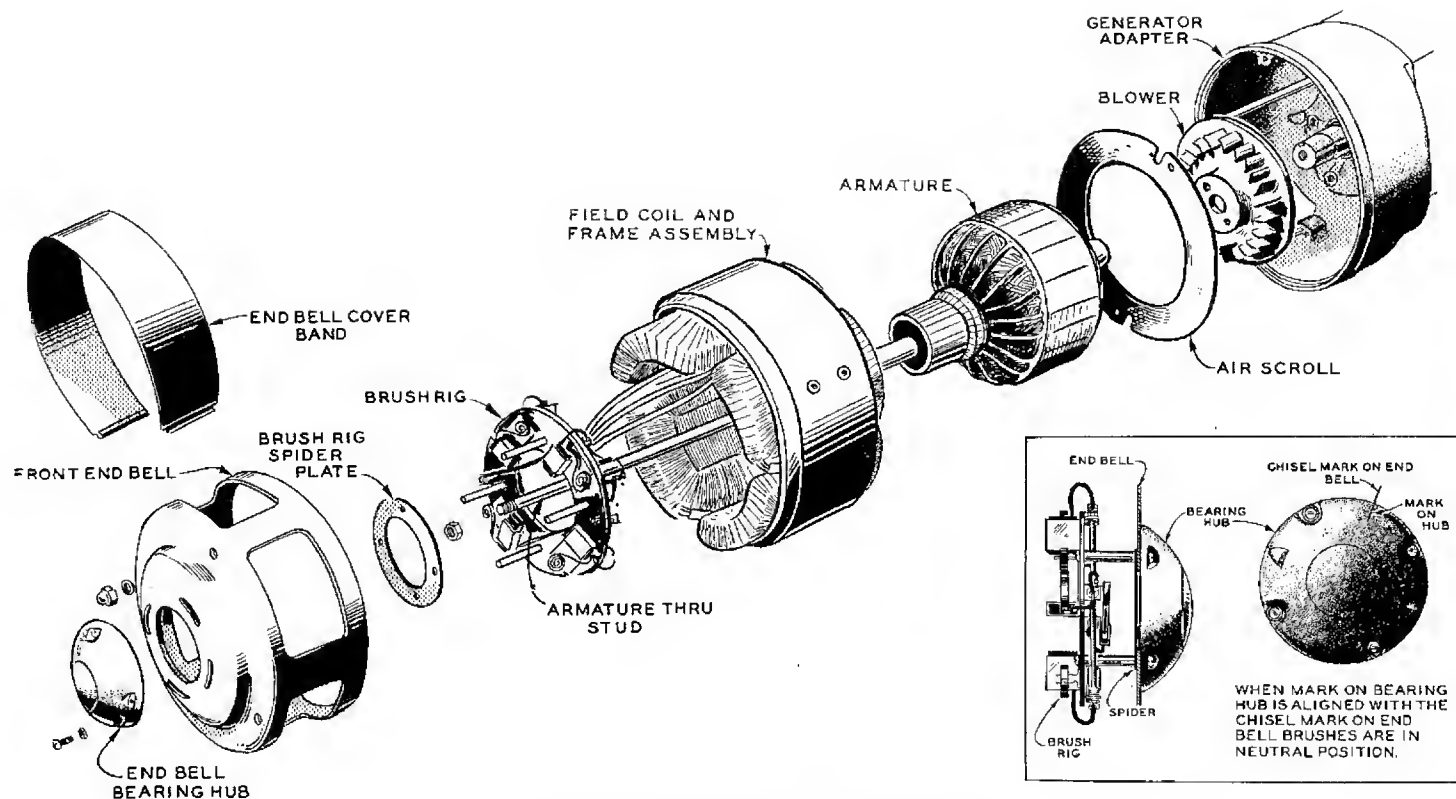
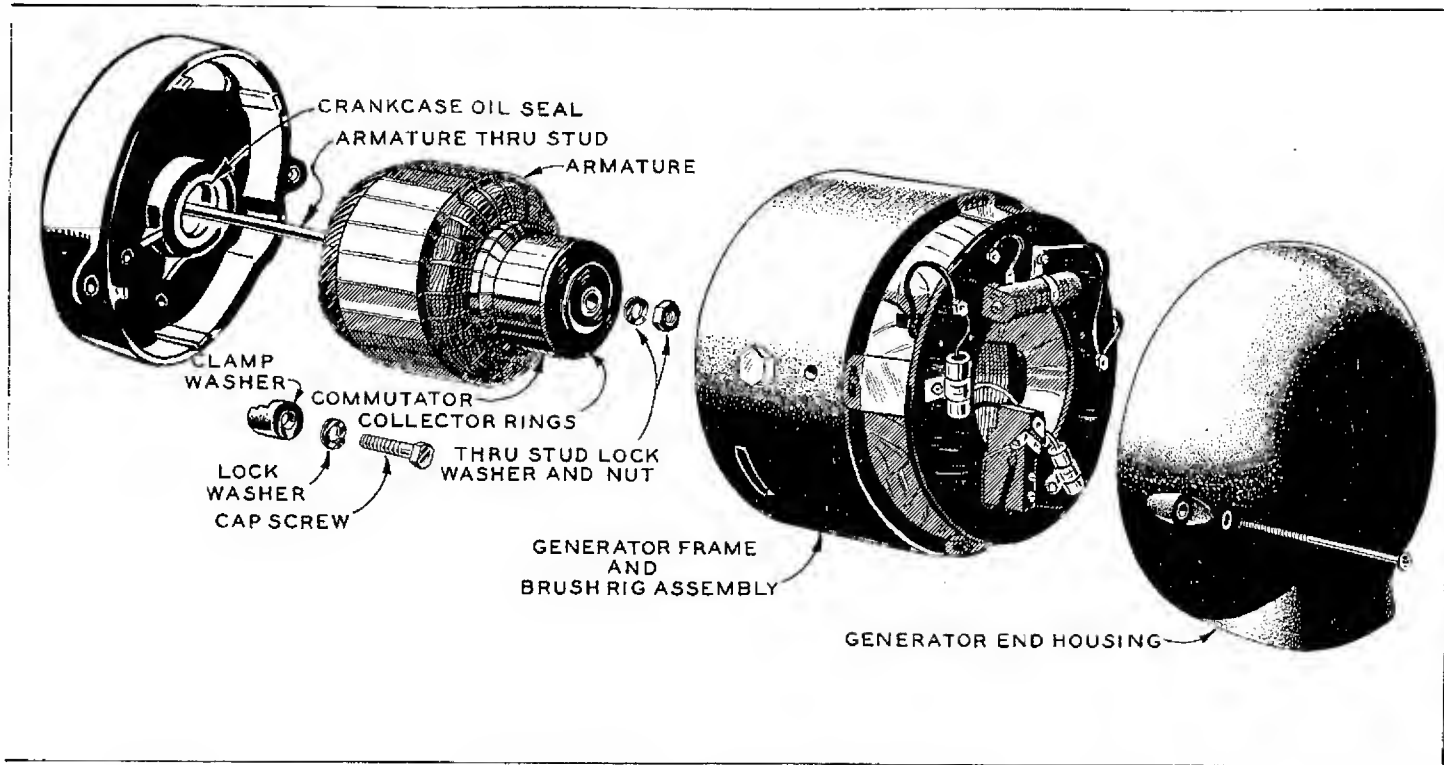

FIG.14-GENERATOR ASSEMBLY
FIG.15-GENERATOR ASSEMBLY
Two types of generator construction are used in this series of plants. Fig. 14 shows the type using an armature bearing. Fig. 15 shows the type using no armature bearing.
**BRUSH REPLACEMENT.**—Install new rectangular brushes when the old ones are worn to 5/8" or less in length. The cylindrical type collector ring brush used on the 300 watt 50 cycle, 400 watt 60 cycle generator may be used until worn to 1/4" in length. It is not necessary to remove the end bell or brush rig to install new brushes. Remove the end bell cover band (Fig. 14) or the end housing (Fig. 15), as the case may be. Brushes and leads are then easily accessible. New brushes are shaped to fit and seldom need sanding to seat properly. Always use the correct brush as listed in the parts list, never substituting a brush which may appear to be the same, but may have different electrical characteristics. Be sure to retighten the brush lead terminal nuts tightly. If some brush sparking occurs after replacing brushes, run the plant at a light load until the brushes wear to a good seat.
**BRUSH RIG POSITION.**—The position of the brush rig is important. This position was carefully set at the factory and is identified on bearing models by a chisel mark on the end bell in alignment with an indented mark on the bearing hub. See Fig. 14. On other models using no bearing, the proper brush rig position is identified by a painted edge of one brush rig support which aligns with a painted chisel mark on the edge of the generator frame. As long as the original brush rig and armature are continued in service, these reference marks must be observed. If a new brush rig or armature is installed, the original alignment marks may have to be disregarded in order to find the proper neutral position.
**GENERATOR DISASSEMBLY (Fig. 14).**—To disassemble the generator, first remove the end bell cover band. Lift each brush high in its guide, so that the brush is held by spring pressure against its side. Tag leads which are disconnected, to assure correct replacement. After removing the two end bell nuts, the end bell and frame may be removed as a unit, the armature bearing remaining on the armature. The end bell and frame assembly may be separated, to gain access to the brush rig.
**GENERATOR DISASSEMBLY (Fig. 15).**—To disassemble the generator, first remove the end bell, or housing. Lift each commutator brush high in its guide, so that the brush is held by spring pressure against its side. Tag leads which are disconnected, to assure correct replacement. Remove the two heavy clamp washers which fasten the generator frame to its adapter. The frame and brush rig can then be removed as a unit.